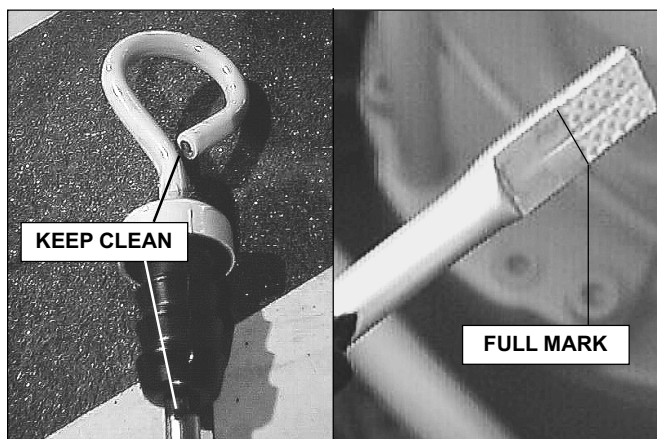

FIGURE 4.36C
4. Check and make sure the vent hole on dipstick is clean. See Figure 4.36C.